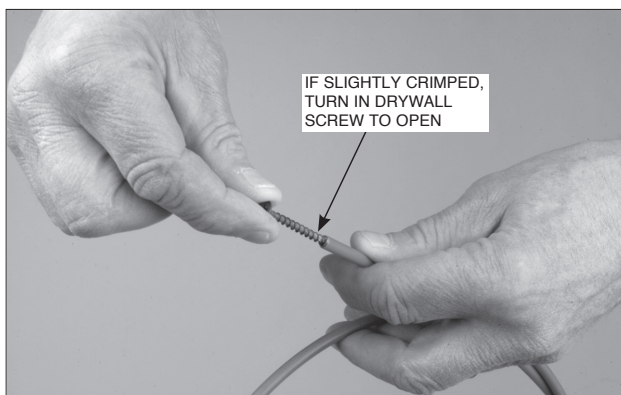

FIGURE 5-52
1. Lay out the flexible conduit and secure it in place. See Figure 5-52.